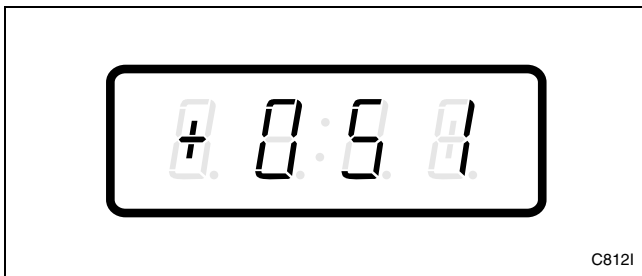

Figure 184
3. Press the DELICATES (+) or the COLD (-) keypad to scroll through the programmable options until “+051” appears in the VFD. Refer to *Figure 184*.